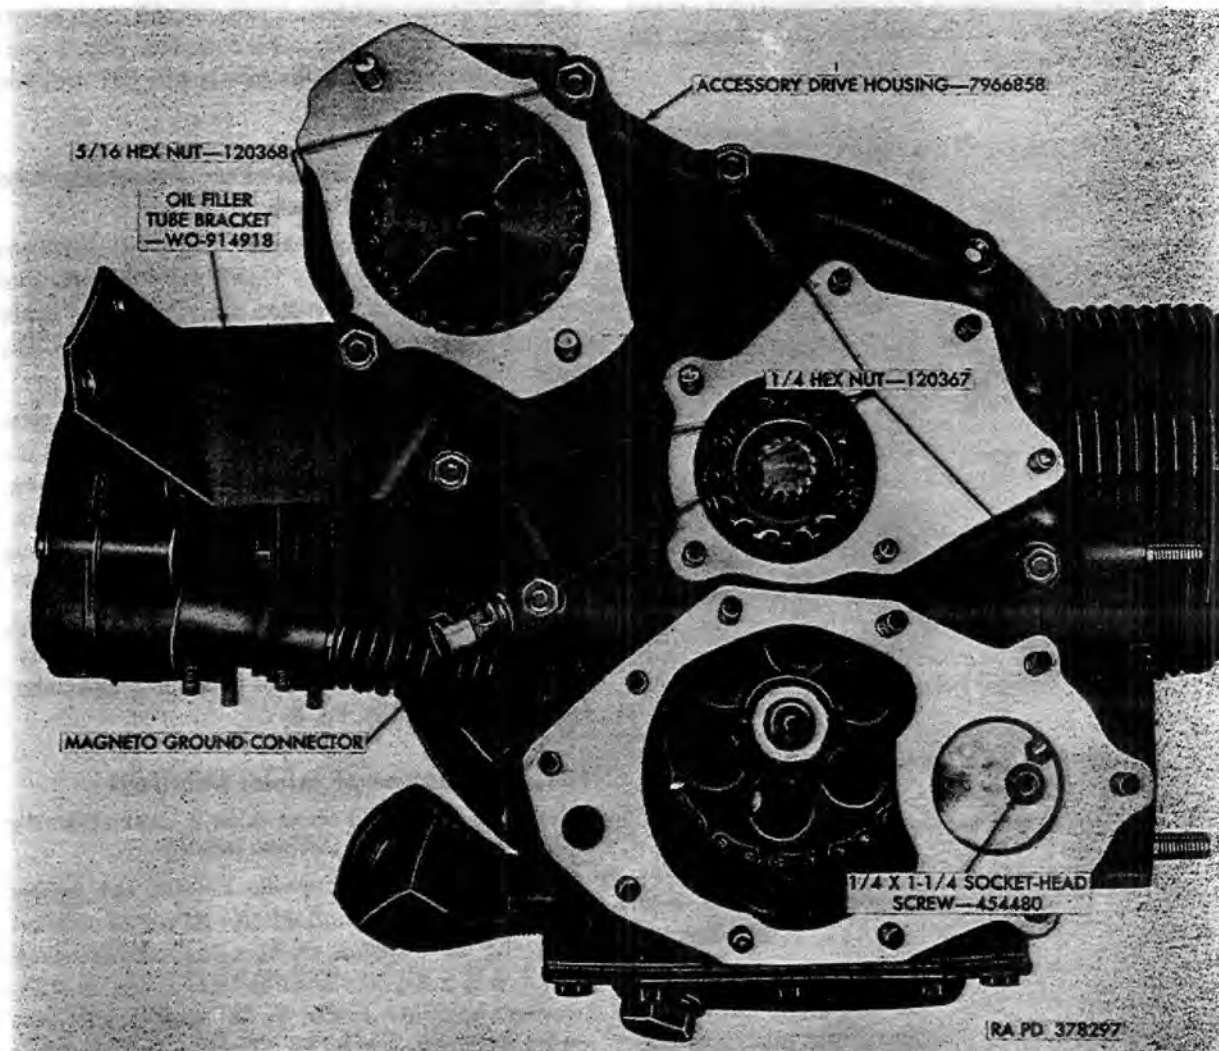

Figure 70. Accessory drive housing installed.
a. *Install Accessory Drive Housing.* Place a new gasket (F) on front of cylinder block. Slide acces-
sory drive housing (E) over cylinder block studs. Position oil filler tube bracket (A) and magneto ground connector (R) on cylinder block studs as shown in figure 70. Install (fingertight) two $\frac{5}{16}$ hex nuts (B), two $\frac{5}{16}$ lockwashers (C), one $\frac{5}{16}$ flat washer (D), four $\frac{1}{4}$ hex nuts (J), four $\frac{1}{4}$ lockwashers (H), and three $\frac{1}{4}$ flat washers (G) in locations shown in figure 70. Install two $\frac{1}{4}$ hex nuts (J), two $\frac{1}{4}$ lockwashers (H), and flat washers (G) on accessory drive housing studs (located on rear) which extend through front of cylinder block. Do not tighten nuts until oil pump (par. 103) and accessory drive bracket (par. 104) have been installed. Install (fingertight) one $\frac{1}{4}$ x $1\frac{1}{4}$ socket head screw (Q), $\frac{1}{4}$ lockwasher (H), and one special washer (P) in oil filter recess as shown in figure 70.